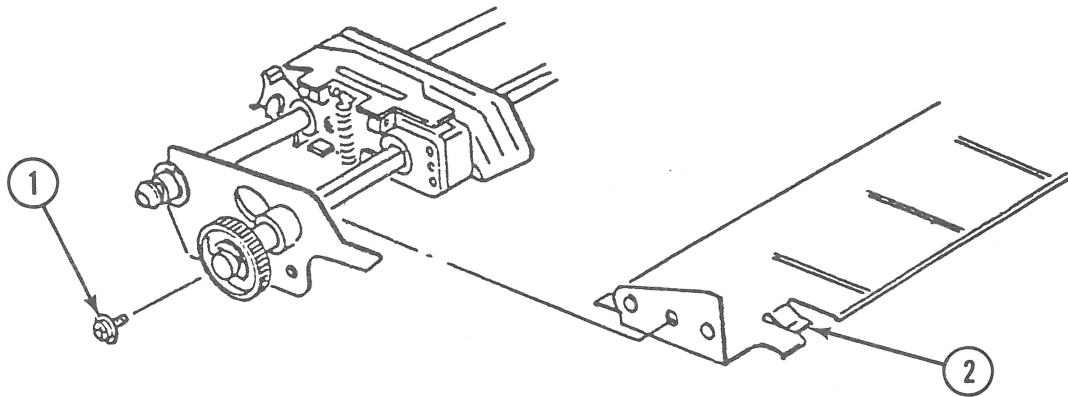

FIGURE 16
1. Remove the screws (Figure 16, #1), right and left, that hold the paper pan to the tractor assembly.
2. Position the new paper pan so that the lip (Figure 16, #2) is on the end of the tractor assembly that has a gear.